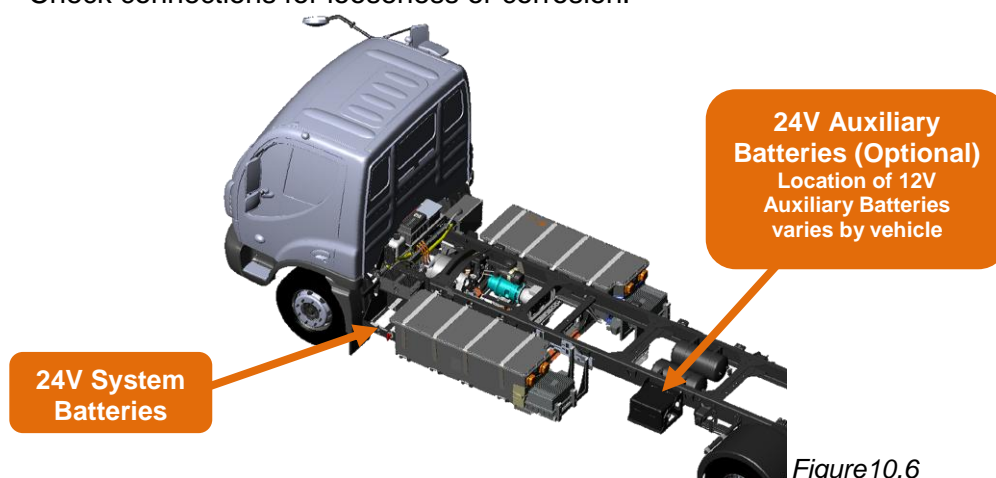

Figure 10.6
- ✓ Remove protective covers on all system and auxiliary batteries (Figure 10.6).